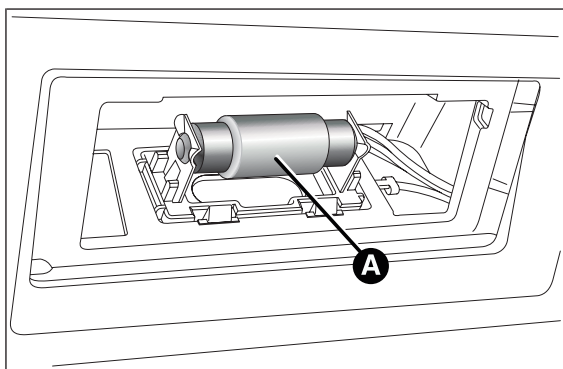

fig. 126
- ☐ replace the bulb B fig. 126 releasing it from the side contacts;